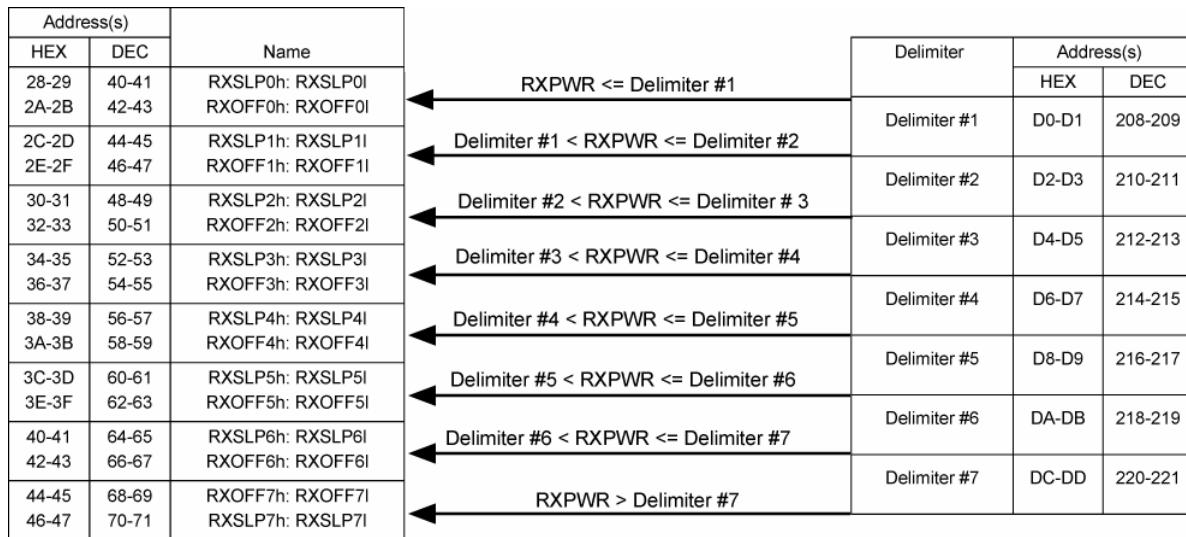

Figure 3. Internal Calibration RX Power Linear Approximation
The user must store the appropriate slope/offset coefficients in memory at the time of transceiver calibration. In the case of RX power, a look-up table is provided that implements eight-segment piecewise-linear correction. This correction may be performed as a compensation of the receiver non-linearity over temperature or receive power level. If static slope/offset correction for RX power is desired, the eight coefficient sets can simply be made the same. The user has the option to select between using preset hard-coded delimiters values or programmable delimiters where delimiters corresponding to the best linear approximation intervals of a specific receiver can be entered. The latter option will use an additional fourteen (14) bytes from the OEM scratch pad A6h:208-221(DO_h-DD_h). OEMCFG6 bits [6:5] are used to select between these options. The memory maps for the calibration coefficients are shown in Tables 11 and 12. If the programmable delimiters option is selected, the user must enter the seven delimiters of the intervals that best fit the receiver response. The diagram in Figure 3 shows the link between the delimiters and the sets of slopes and offsets.